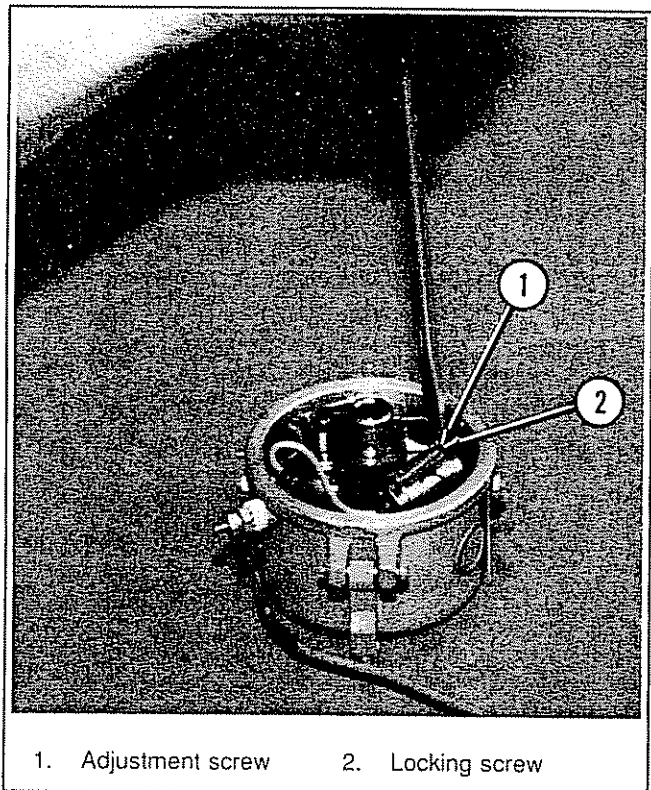

Figure 6-26. Adjusting Point Gap
3. Loosen the lock screw and adjust the points to specifications (Figure 6-26).